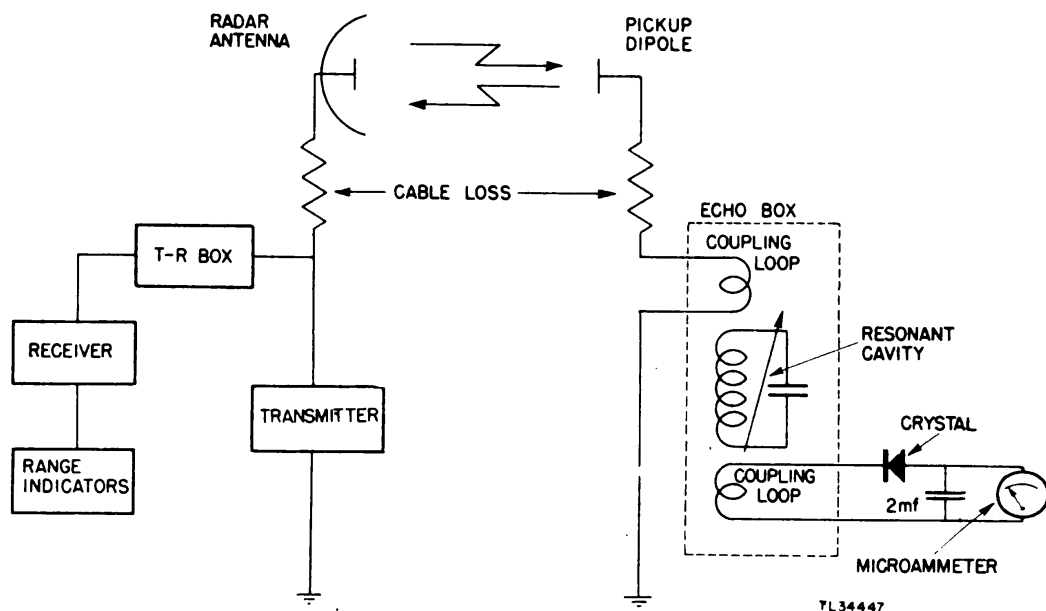

Figure 34. Echo Box TS-207/UP, simplified schematic diagram.
44. ECHO BOX TS-207/UP (fig. 34).